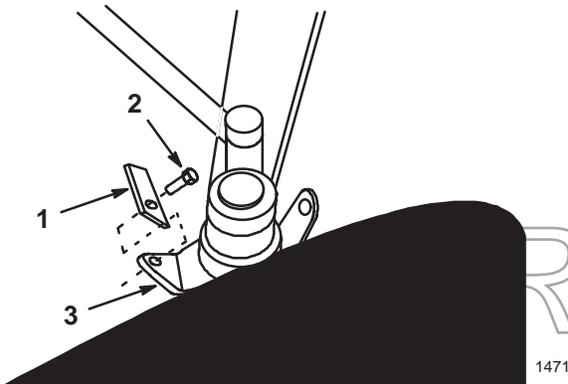

Figure 9
6. Install steering spindle stops in front of the rear tab on front wheel spindles (Fig. 9). Align so stops contact the axle during tight turns and wheels do not contact the frame. Secure with 5/16 x 3/4" self tapping bolt (Fig. 9).